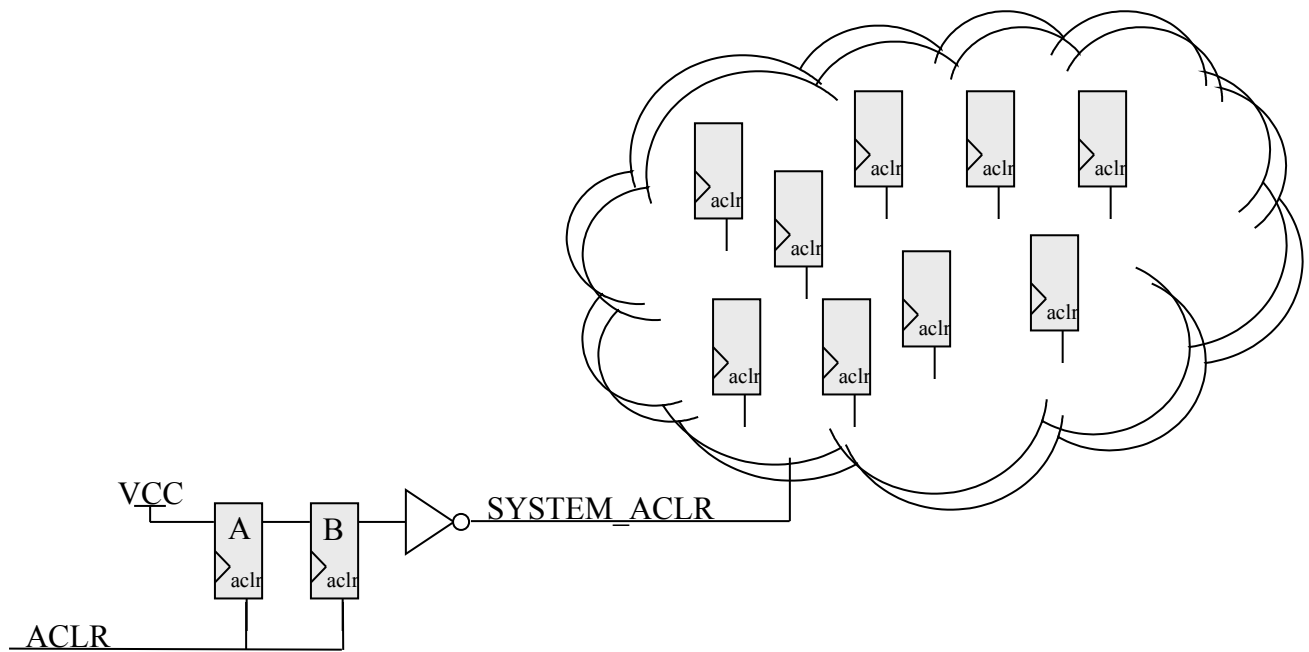

Figure 2: Example Reset Structure
A common system has a reset register that fans out to the asynchronous clear/preset port of many registers (See Register B in Figure 2 above, for an example). This register usually drives a global to easily fan-out across the device. This is a very common scenario, but failures can occur if:
b) If the asynchronous reset fails timing and does not use global routing, try assigning it to use a global (In the Assignment Editor, make a Global = On assignment to the source register driving the asynchronous signal, e.g. register B in Figure 2)
c) If the asynchronous reset fails timing and uses global routing, try the using local routing. (In the Assignment Editor, make a Global = Off assignment to the source register driving the asynchronous signal, e.g. register B in Figure 2)